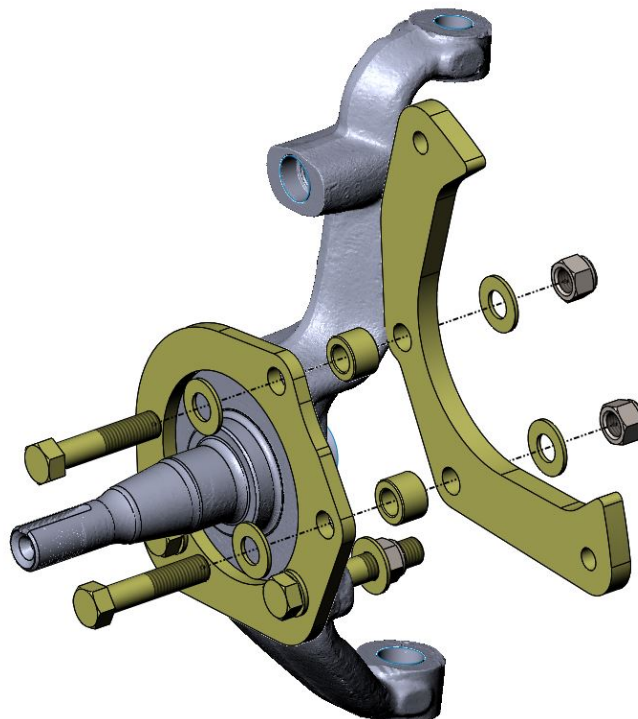

Figure 2 - Intermediate Caliper Mounting Bracket Installation
5. Next, install the Intermediate Caliper Mounting Bracket onto the Primary Caliper Mounting Bracket. The intermediate caliper bracket installs to the rear of the primary bracket using two 7/16"-20 x 2.000" Grade 8 Hex Head Bolts along with two Caliper Mounting Bracket Spacers, 7/16" SAE Flatwashers and 7/16"-20 Nyloc nuts. **IMPORTANT:** The intermediate bracket has a relief cut around one of the mounting holes for clearance to the spindle, this relief goes at the upper most mounting hole. Refer to Figures 2 below for additional information on how to install. Torque the bracket mounting bolts to 60 lbs/ft.